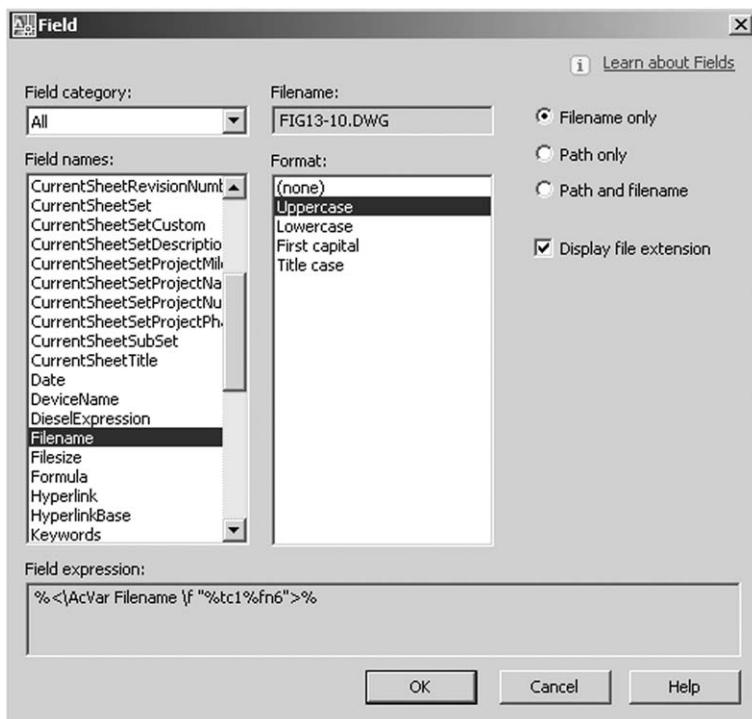

Figure 13.12 The Field dialogue box with Filename selected.
d) Display file extension active – Figure 13.12